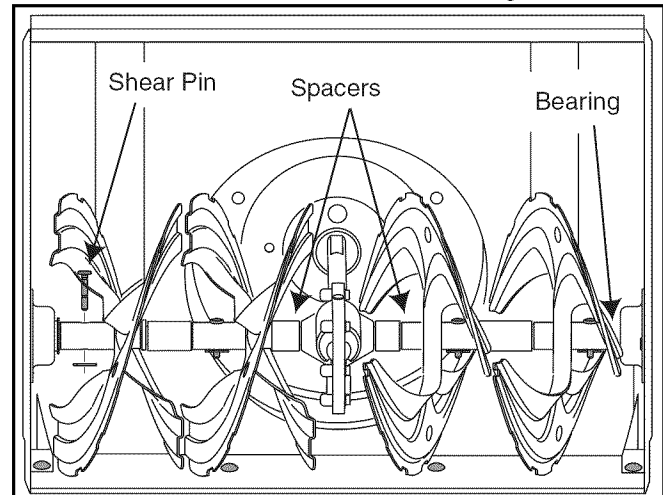

Figure 10
- At least once a season, remove the shear pins on auger shaft. Spray lubricant inside shaft, around the spacers. Also lubricate the flange bearings found at either end of the shaft. See Figure 10.
- The augers are secured to the spiral shaft with two shear pins and cotter pins. If the auger should strike a foreign object or ice jam, the snow thrower is designed so that the pins may shear. Refer to Figure 10.